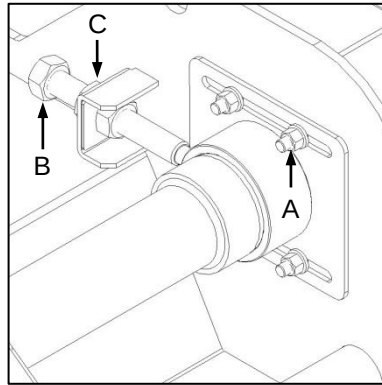
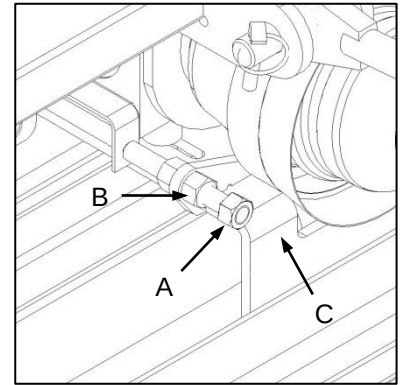

Fig. 11
Fig. 12
- ✓ Loosen 4x locking nuts on the drive tensioner base plate (Fig. 11-A) and 4x gearbox mounting bolts located below the gearbox base plate (Fig. 12-C).
- ✓ Loosen the tensioner lead-screw locknut (Fig. 11-C) and adjust the lead-screw (Fig. 11-B) to achieve the required belt tension.
- ✓ Laat skiet die 4x sluitmoere aan die dryfband-spannersteunplaat (Fig. 11-A) en die 4x ratkas-monteerboute onder die ratkassteunplaat (Fig. 12-C).
- ✓ Laat skiet die spannerleiskroefsluitmoer (Fig. 11-C) en verstel die leiskroef (Fig. 11-B) om die vereiste bandspanning te verkry.
- ✓ During the belt tensioning process, alignment of the gearbox should be maintained. Use the gearbox positioning lead-screw and locknut (Fig. 12-A and 12-B) for this purpose.